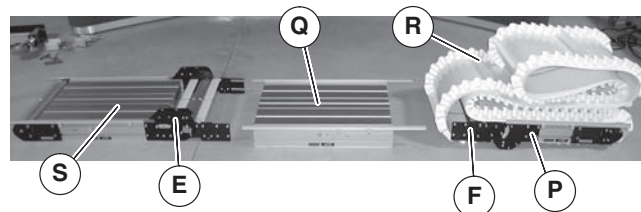

Figure 4
1. Locate components (Figure 4).